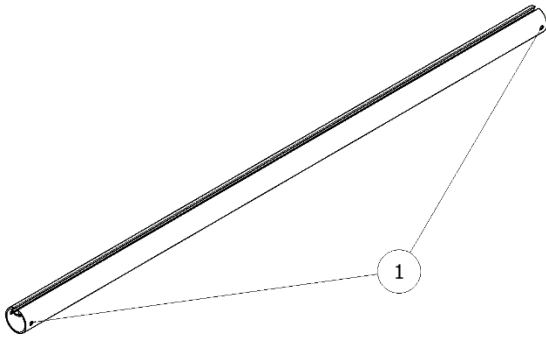

Figure 2.2
If the tarp axle is too long, cut it and drill the 5/16" holes 1/2" (1) from the ends. (Figure 2.2)